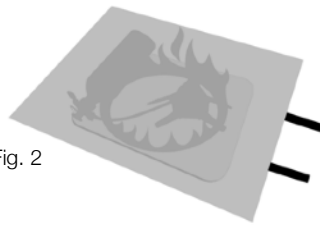

Fig. 2
3. Centre the MSR circular heat reflector (provided with your stove) over the bolts (Fig. 2/a)
2. Wrap the Flame Guard around the stove, placing the ventilation port of the last panel over the fuel line to keep the guard in place (Fig. 2)
2. Slide tube into Pouch and place under skirt (Fig. 2)
2. Hold a quick-release tab in each hand and drape the blanket over the flames. Try and cover the stove, bottle and stove board (Fig. 2)